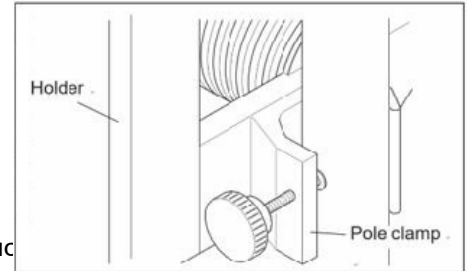

Figure 2
2. Fix the holder to the pole with a pole clamp of the holder (Figure 2).